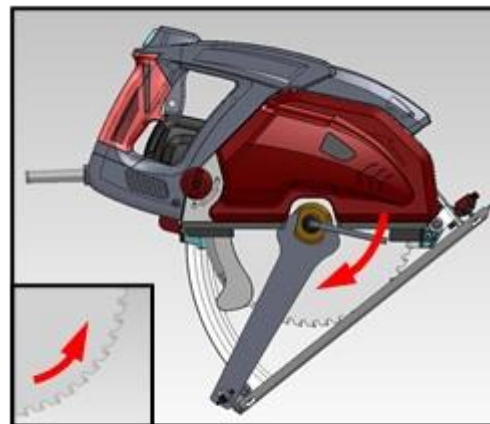

Fig.5
5. Install the new blade, flange and arbor screw in proper order and check for proper blade orientation. **Fig. 5.**